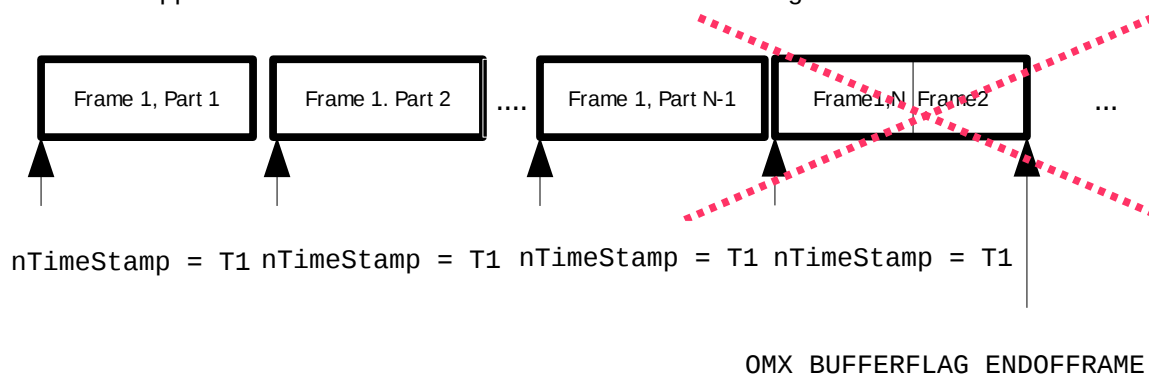

Figure 5: Invalid buffer content - If partial frames are used, data that belongs to more than one frame WILL NOT be stored in the same OMX buffer
b) If PV framework provides a frame/NAL split into partial frames/NALs for a specific codec format, then PV framework will also ensure that any data that belongs to multiple frames/NALs WILL NOT appear in the same OMX buffer. This is illustrated in Figure 5.